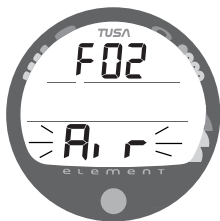

Fig. 16 - SET MODE ENTRY
- Upon entry into Set Mode, the Set FO2 screen will be displayed with the Set Point flashing (Fig. 16).